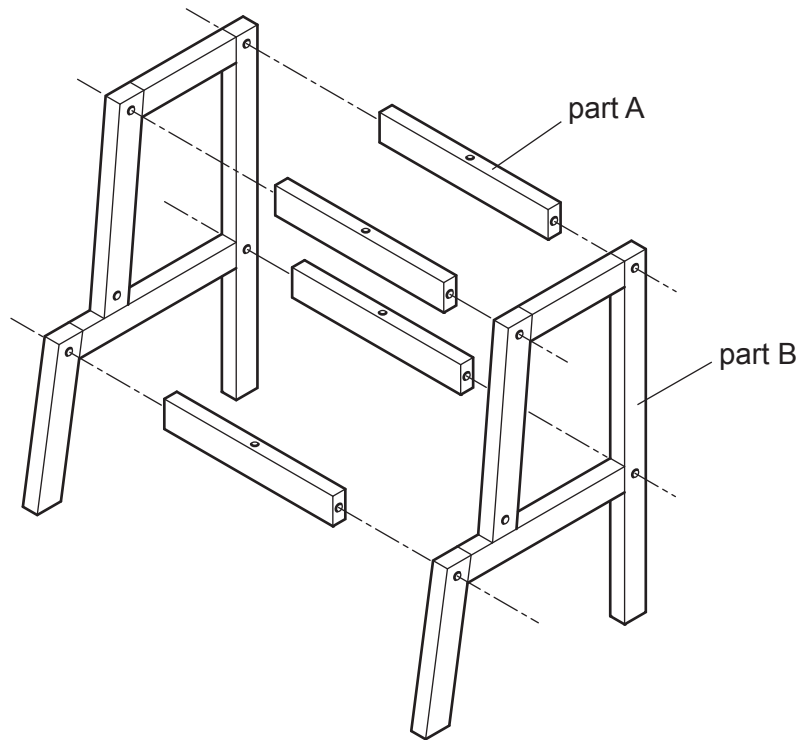

Fig. 1.2
Fig. 1.2 shows an exploded diagram of the step stool framework.
- (i) Identify a suitable standard fixing or component that could be used to join part A to part B as shown in **Fig. 1.2**.